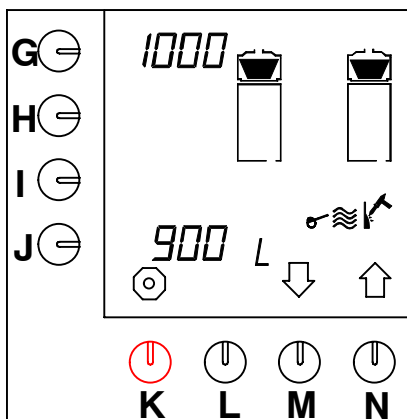

Fig. 26 Descaling counter coffee-making system
- The descaling counter appears on the display (fig. 26 ).